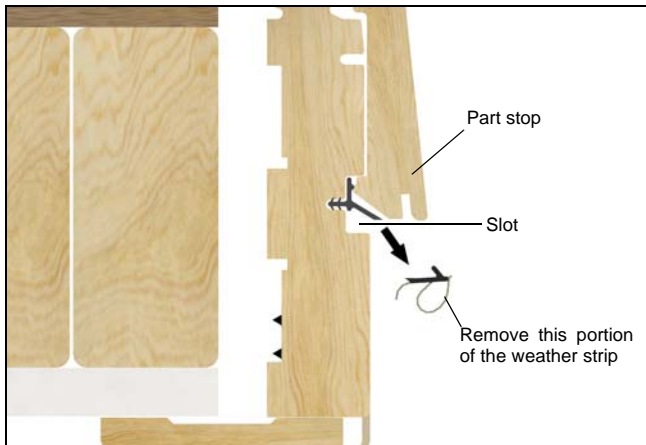

Figure 21
2. Use a utility knife to remove the damaged jamb weather strip and sufficient weather strip backing to expose the kerf in the jamb part stop and access to the slot in the door jamb. See figure 21.